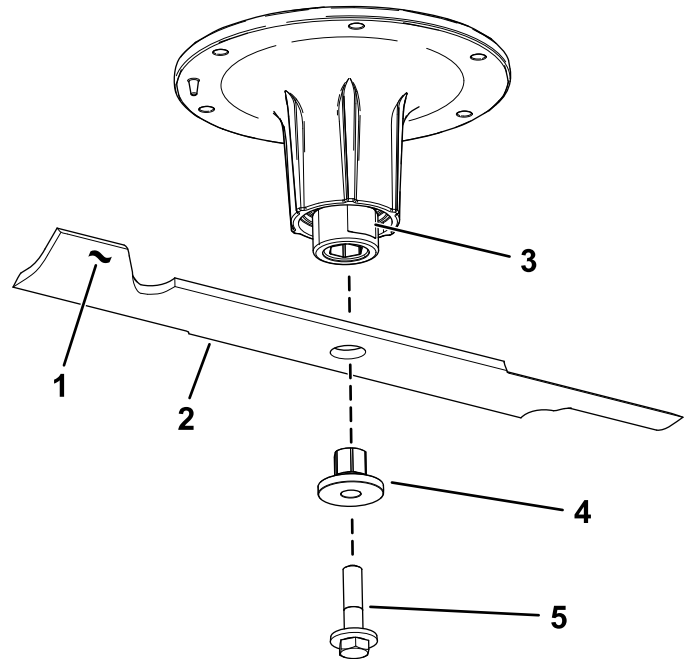

Figure 94
2. Remove the blade bolt, bushing, and blade from the spindle shaft (Figure 94).